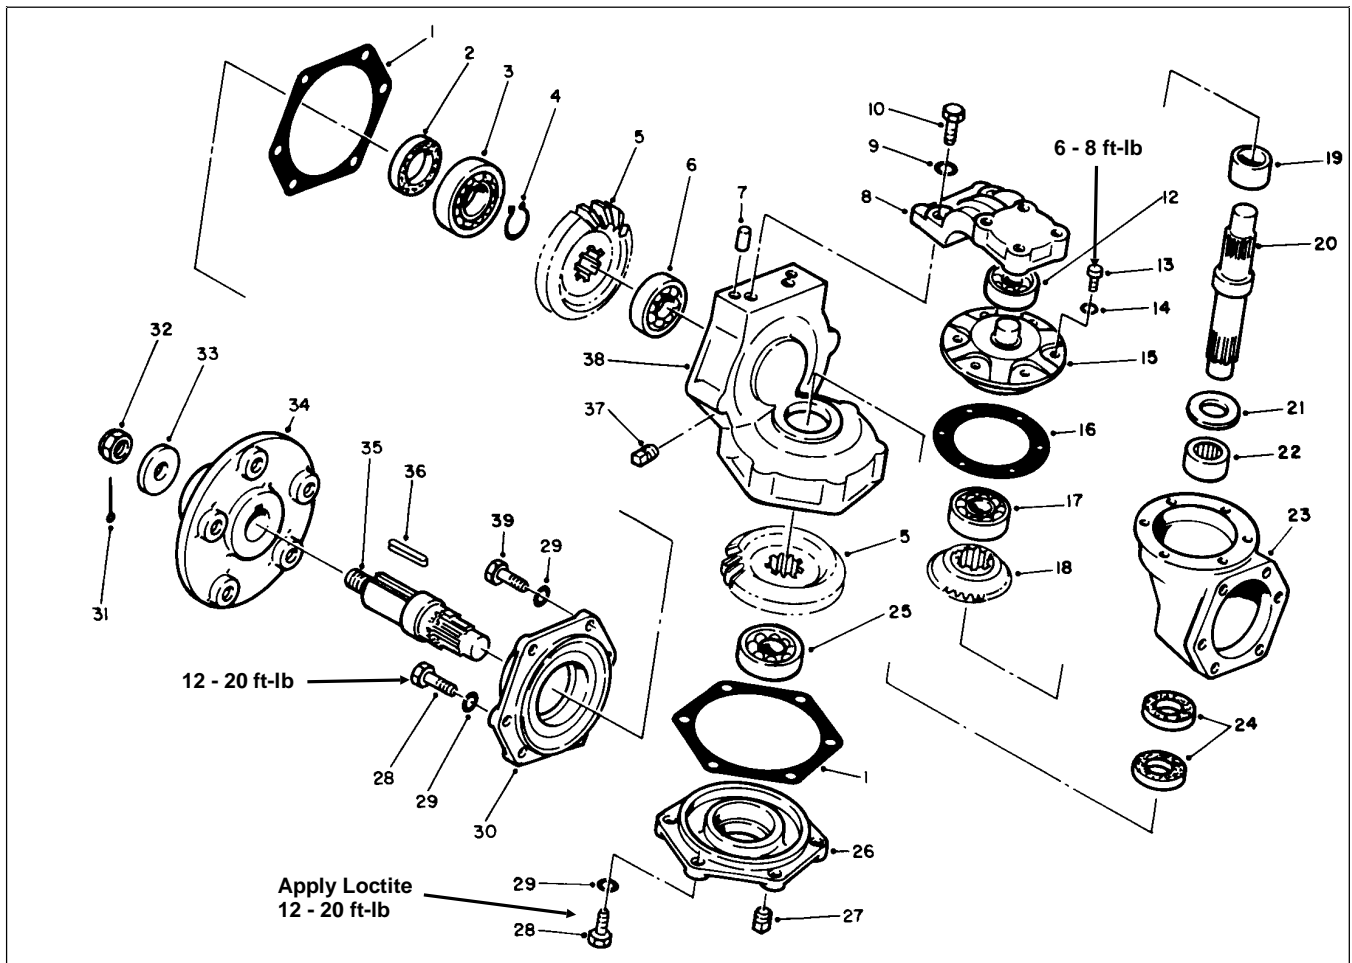

Figure 13
4. Disassemble knuckle assembly (Fig. 13):
C. Adjust tooth contact of bevel gear (Item 6) to pinion (Item 30). Use shims (Item 29) to make good contact with light load between bevel gear and pinion (Fig. 13).
3. Assemble knuckle assembly (Fig. 13):